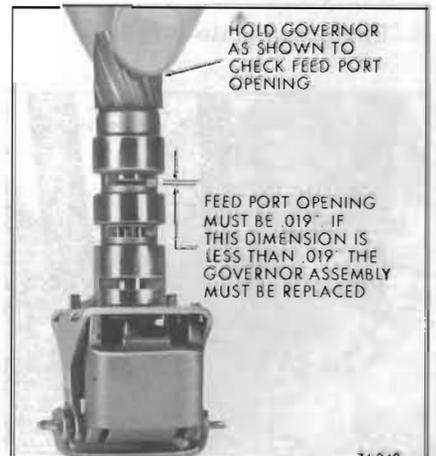

Figure 74-240
2. Check governor feed port opening. See Figure 74-240.